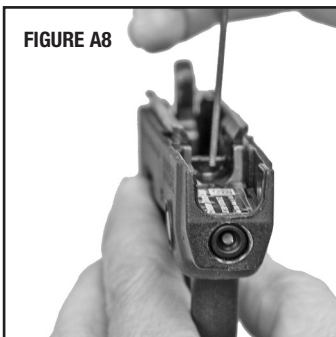

FIGURE A8
- Seat the laser fully into its recess and tighten the hex screw to lock it into place (FIGURE A8).
- The activation-button (to turn the laser on and off) is located at the front of the pistol frame (on both sides) (FIGURE A8).